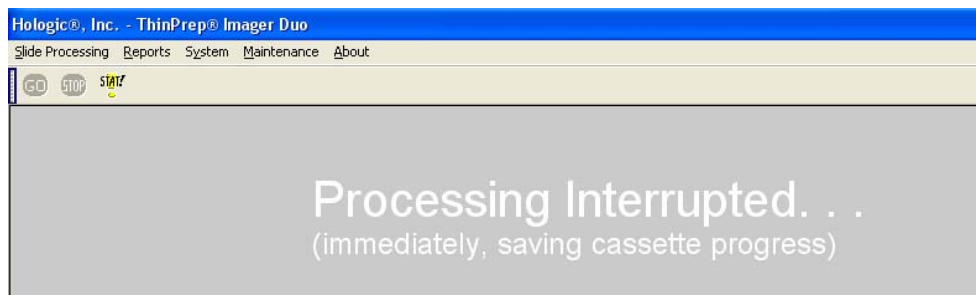

Figure 3-23 Slide Processing Interrupted
5. On the display, notice that the status of the batch changes to “Processing Interrupted” and the GO and STOP buttons in the menu bar are inactive (not highlighted.) (Refer to Figure 3-23.)